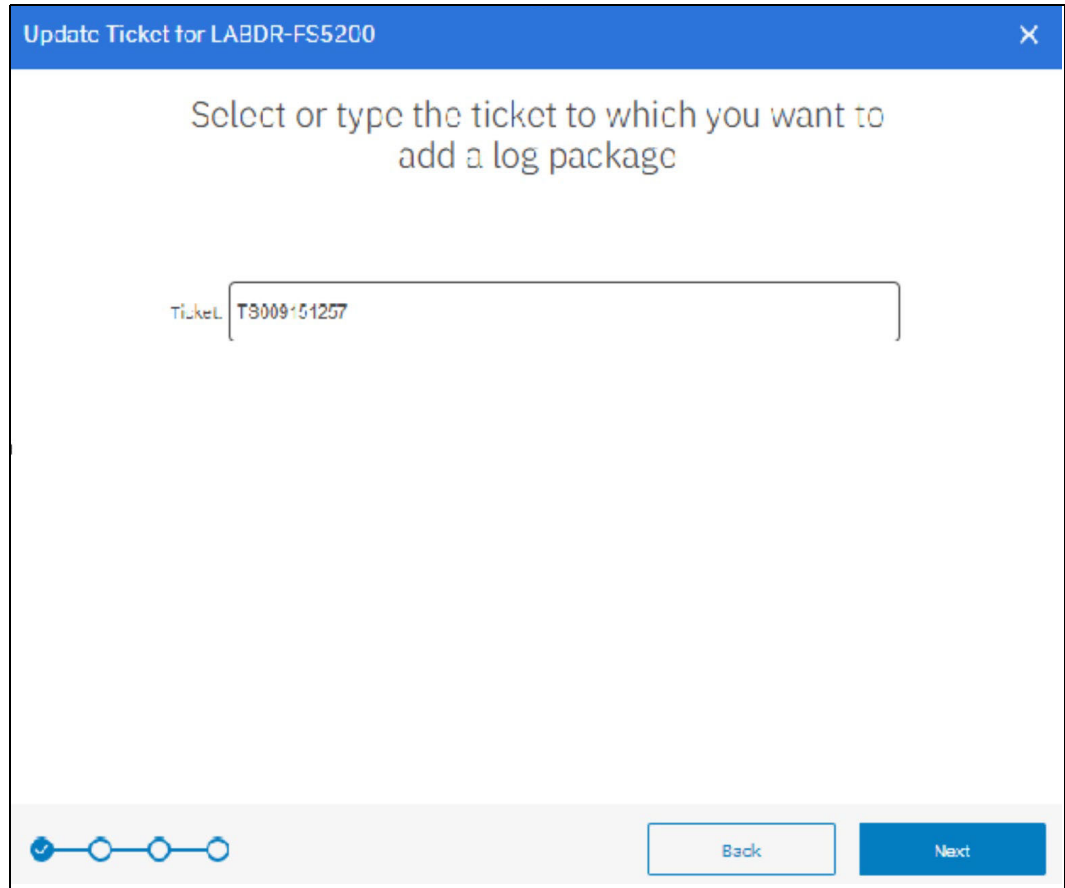

Figure 11-23 Entering the IBM Support or PMR case number
2. Enter the IBM Support case number, and then click **Next** (see Figure 11-23).